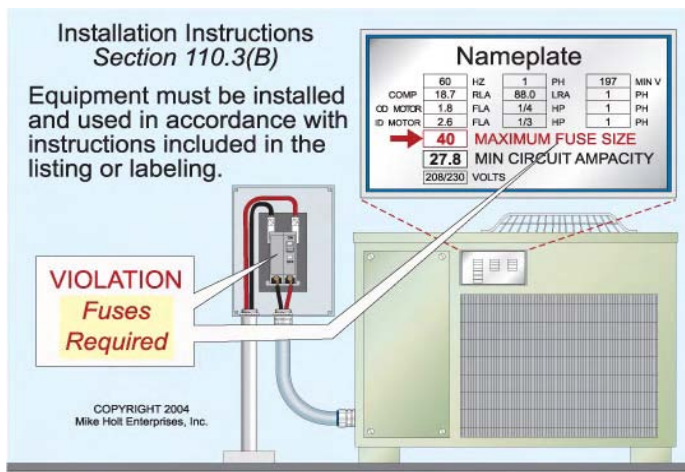

Figure 110–3
- When an air conditioner nameplate specifies “Maximum Fuse Size,” one-time or dual-element fuses must be used to protect the equipment. **Figure 110–3**